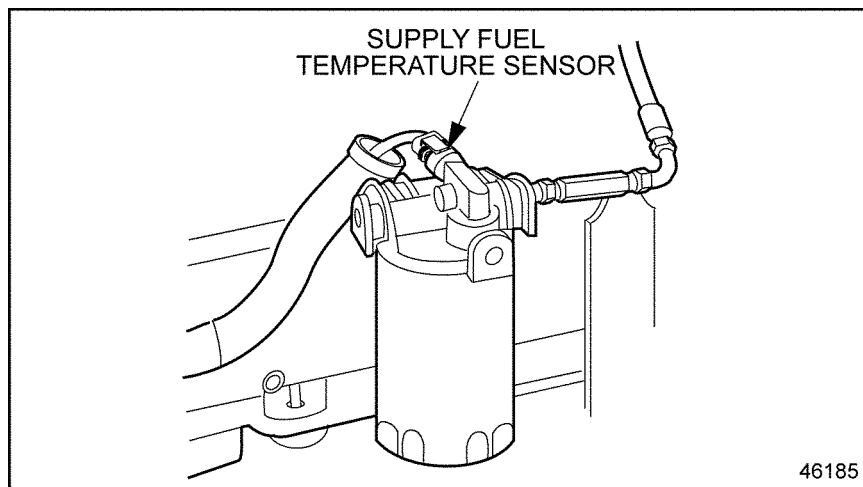

Figure 11-1 Supply Fuel Temperature Sensor
1. Remove the supply fuel temperature sensor (SFT) fitting from the secondary filter, if equipped; see Figure 11-1 for SFT.